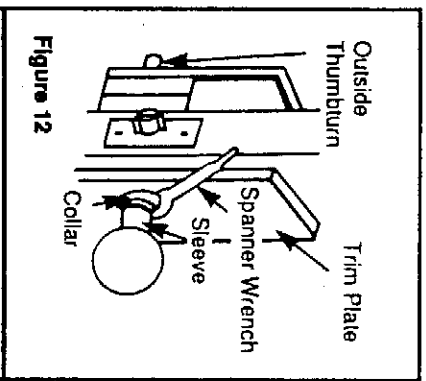

Figure 12
3. Use the provided spanner wrench to loosen the collar of the **inside** knob (approximately 5 counterclockwise turns). (see Figure 12)